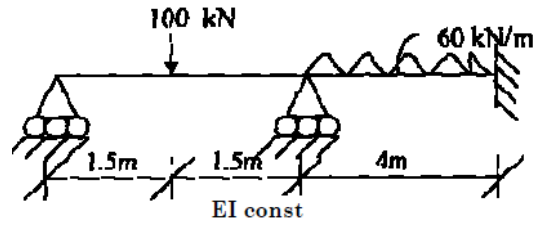

Fig.1
1. Analyse the continuous beam show in Fig .1 using force method.